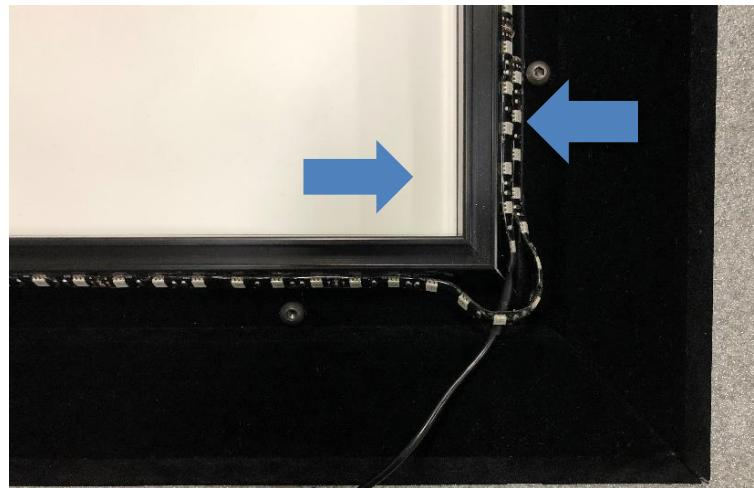
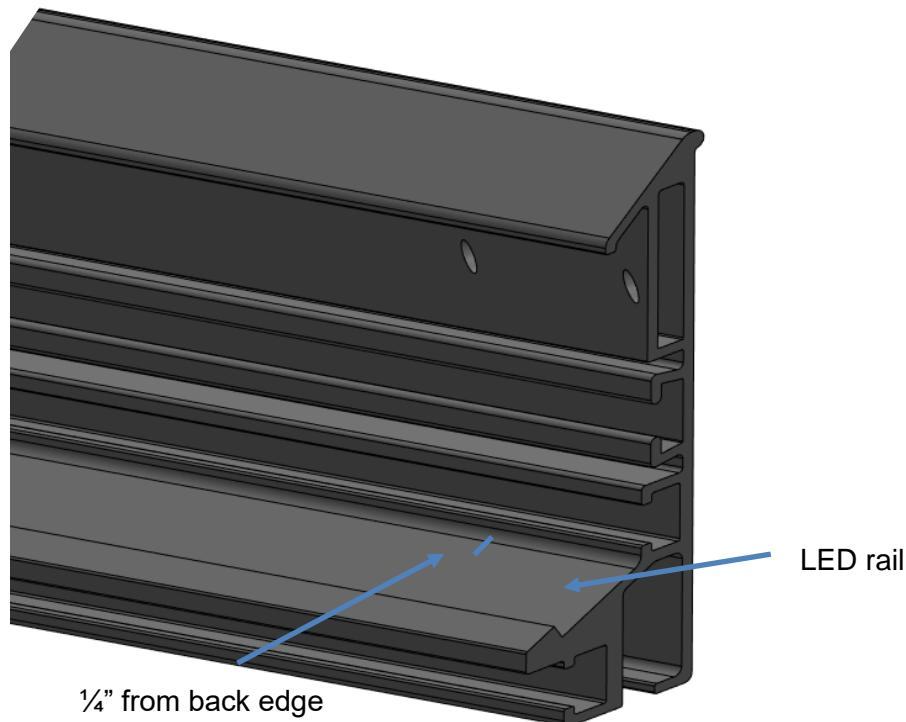

Figure 3: Place the LED on the rail
Figure 4: Cross section of Balón frame indicating LED rail
3. Position the LED along the rail. Make sure the adhesive side on the LED strip is positioned on the rail (Figure 3), and about 1/4 inches from the edge (see Figure 4).